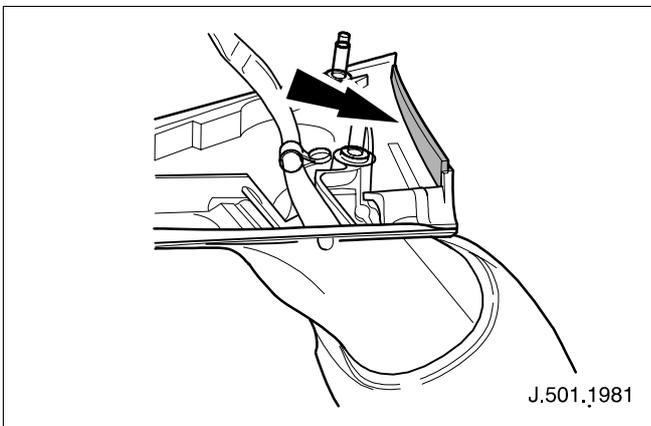

Fig. 6
- 6 Fit the foam strip (depending upon hand) to inner edge of the mirror base. (See Fig. 6)